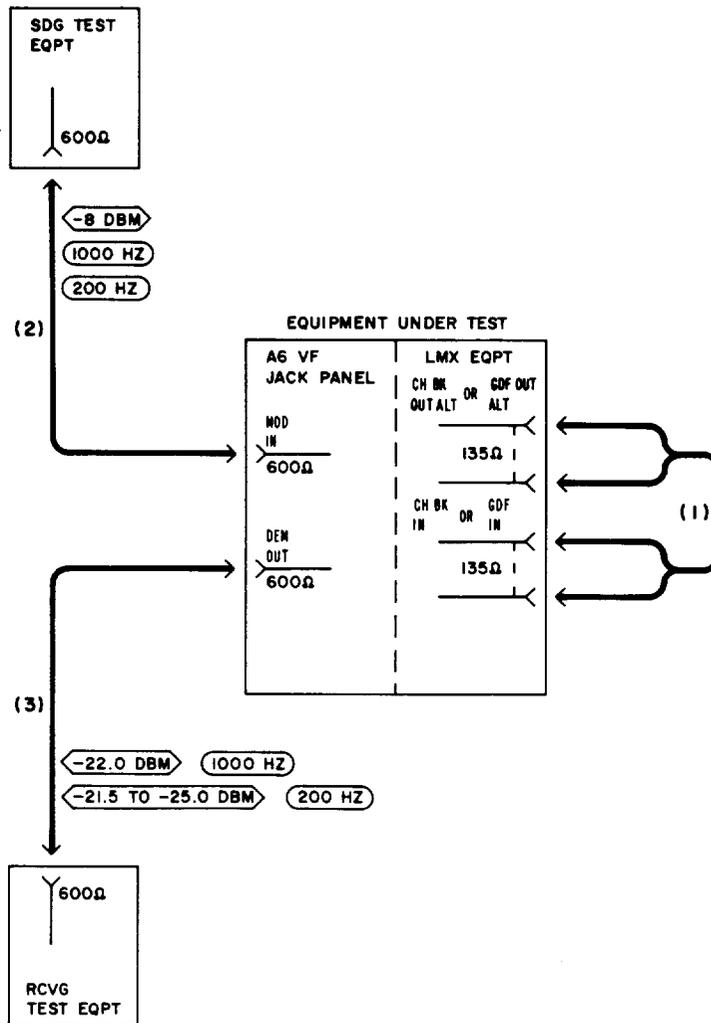

Fig. 18—Patching Diagram—Frequency Response Test—Unequal-Level Looping
3	At the LMX equipment, connect the CH BK OUT ALT (LMX-2) or GDF OUT ALT (LMX-3) jack to the CH BK IN (LMX-2) or GDF IN (LMX-3) jack [patch (1), Fig. 18].
4	Connect the STE to the MOD IN jack for Channel 1 of the channel bank under test [patch (2), Fig. 18].
5	Connect the RTE to the DEM OUT jack for the channel under test [patch (3), Fig. 18].
10	Remove patches (2) and (3), Fig. 18.
12	At the LMX equipment, remove patch (1), Fig. 18. Note: If the channel bank under test is equipped for CFA, reinsert the CFA unit.